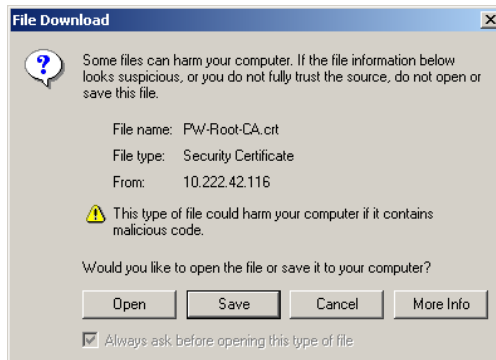

Figure 17. File Download Dialog
3. Select **Root CA Certificate of ConnectUPS Web/SNMP Card**. The File Download dialog opens (see Figure 17).